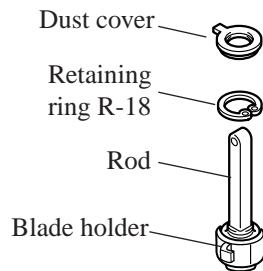
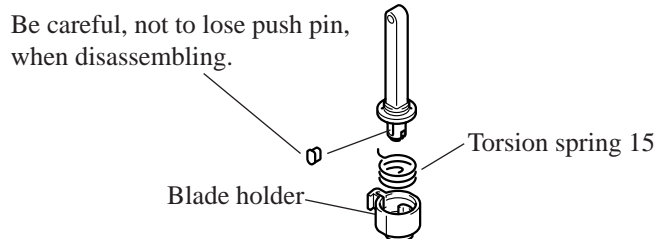

Fig. 12
Fig. 12A
2. Disassemble dust cover, and then disassemble retaining ring R-18. as illustrated in Fig. 12. So blade holder and torsion spring 15 can be separated from rod as illustrated in Fig. 12A.